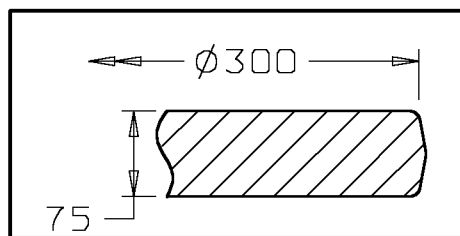

Figure 29 - Normal Trim/Finished Part
**13.1.1 Normal Trim** - Normal trim is required when the surface is dimensioned to the origin of draft and full draft is shown pictorially as illustrated in Figure 29. Tolerance is provided by the general profile tolerance in the **DIM AND TOL** block. Refer to 1E0100 Forger Instructions specification for limits on flash extension due to forging shift during the trimming operation.